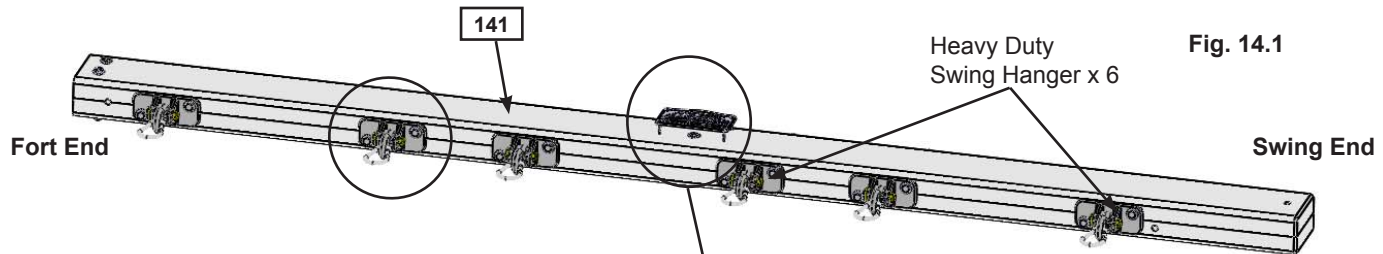

Fig. 14.1
A: Attach 6 Heavy Duty Swing Hangers to (141) Engineered SW Beam using 2 (G13) 5/16 x 6-1/8" Hex Bolt (with 2 flat washers, plastic formed washer and lock nut) per swing hanger, as shown in (fig. 14.1 and 14.2).
C: Install 1 (WB7) 5/16 x 3" Wafer Bolt (with flat washer and t-nut) in the middle bolt hole, from the bottom up, in (141) Engineered SW Beam as shown in (fig. 14.1 and 14.4). **IT IS IMPORTANT THAT THIS BOLT IS ATTACHED. IT WILL MINIMIZE CHECKING OF WOOD.**